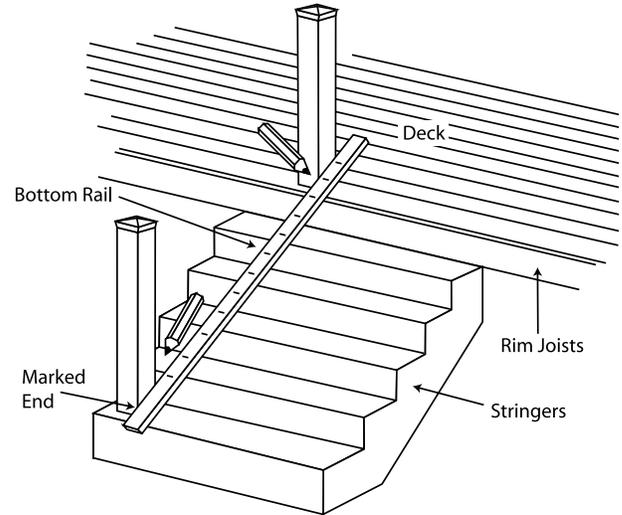

Figure 27
3. Lay bottom rail on stair with marked end at lower post. Center the rail between the posts so that the distance from the post to the first routed hole is equal on both ends. (Figure 27).